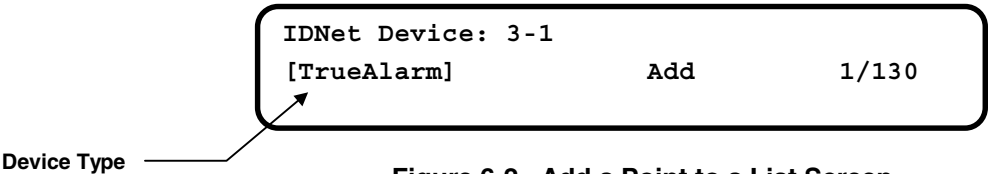

Figure 6-2. Add a Point to a List Screen
2. Press <NEXT> or <PREVIOUS> until Add Point is displayed and then press Enter (Figure 6-2 is displayed).